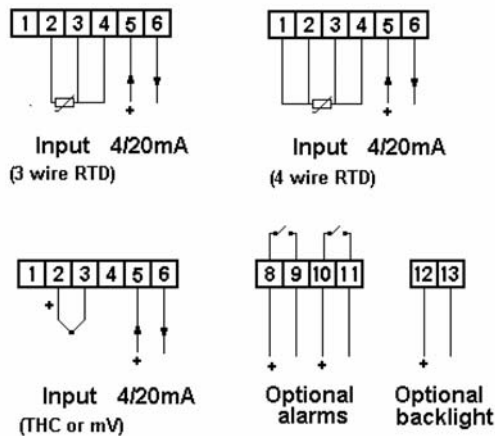

Fig 4b Instrument wiring
- c. Connect the panel wiring to the rear terminal block(s) as shown in Fig 4b.